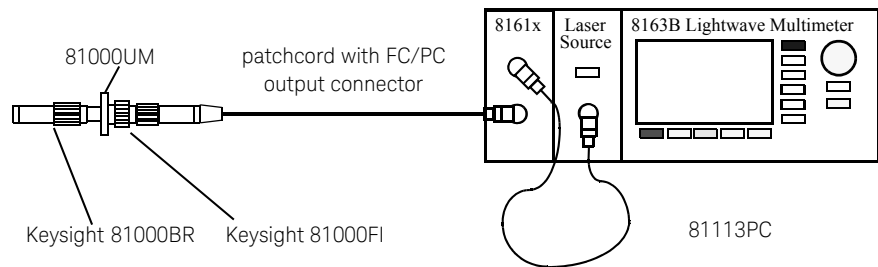

Figure 107 Reflectance Calibration - External Source
- 1 Making sure all the connectors are clean, set up the instrument as shown in **Figure 107** on page -189 if you are using an External Source.